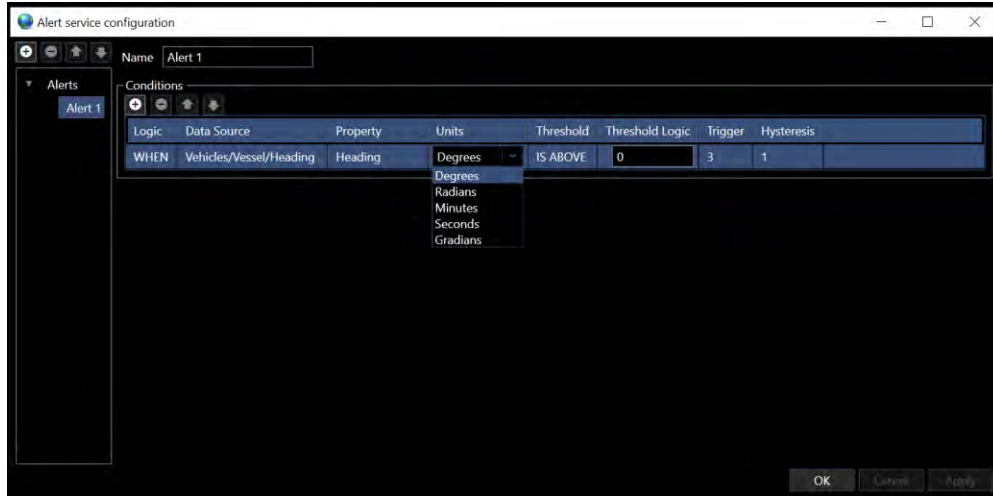

FIGURE 21-8 ALERT - UNITS SELECTION
- d. **Units:** From the drop-down, select the units associated with the selected data source property to use for the test (see Figure 21-8)